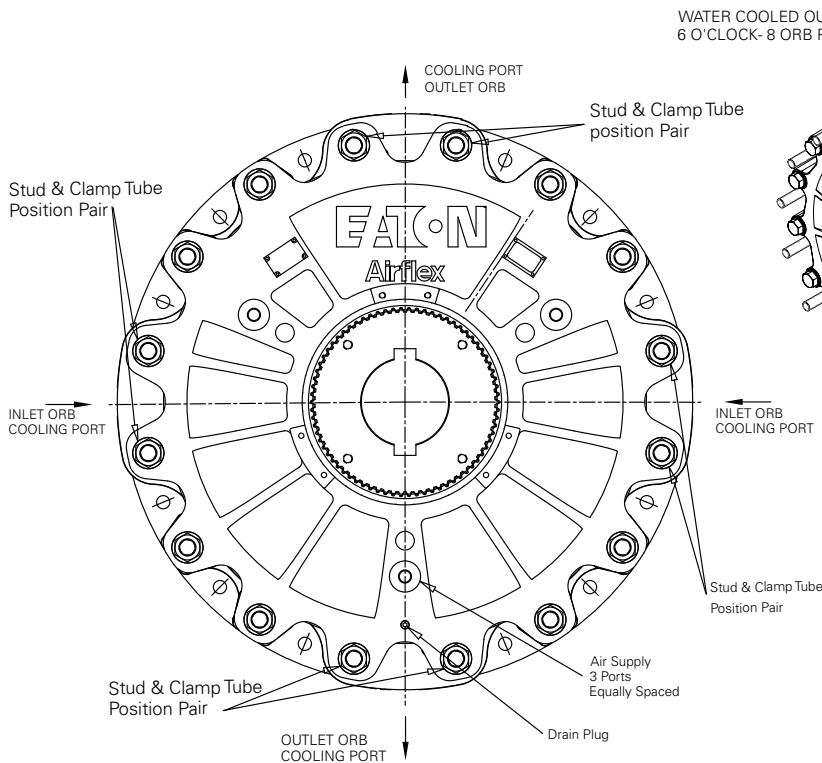
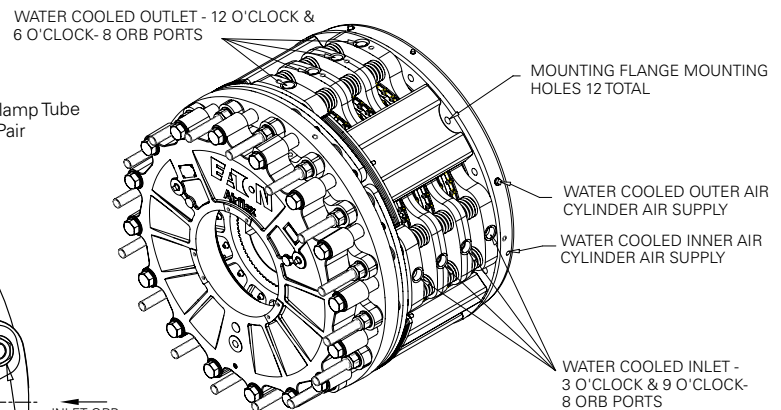

Figure 15
Figure 15A
- 4.9.4 Reference Figure 15 and Figure 15A and make the Eaton Airflex logo the 12 o'clock position and the drain plug (105) the 6 o'clock position. The centerline of the tensioner running through the 12 o'clock
- 4.9.5.1 Reference Figure 15 and Figure 15A Place a support beam (138) over each pair of studs that are located at 45 degrees to each pair of clamp tubes (12). Four support beams are required. Be sure that the support beam rests on the mounting flange/cylinder. There should be no gap.